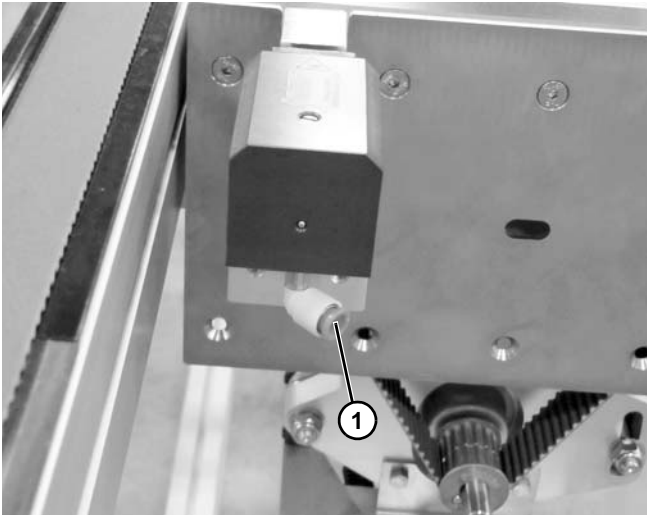

Figure 38
3. Connect port 2 (Figure 36) of the 3 port, 2 way valve to the cushion reset port (Figure 38, item 1).